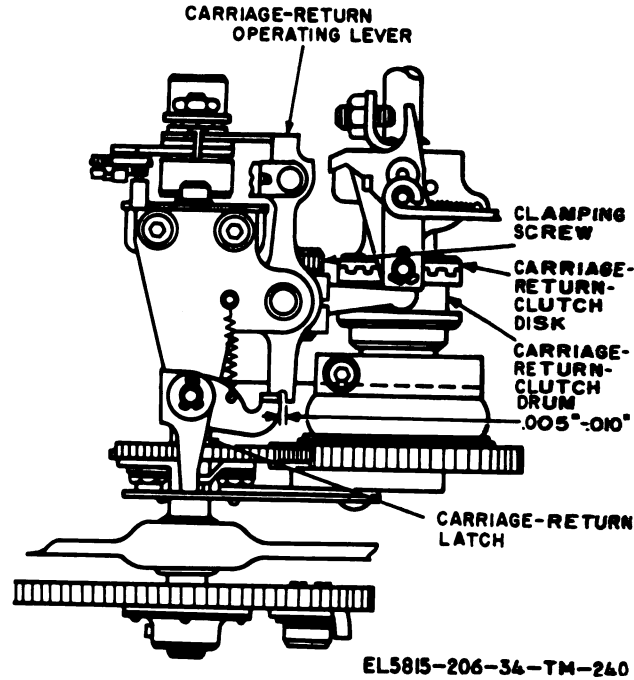

Figure 3-168. Carriage-return-clutch adjustment (TT-4A/TG and TT-698/TG ).
**a. Requirement.** There should be 0.015- to 0.025-inch clearance between the carriage-return blocking lever and the adjusting plate when the carriage is at the left margin. The carriage-return-clutch drum and the carriage-return-clutch disk (fig. 3-168) should not touch each other when the carriage-return operation is selected while the carriage is against the left-margin stopscrew.
3-201. Carriage-Return-Clutch Adjustment (TT-4A/ TG and TT-698/ TG) (fig. 3-168)